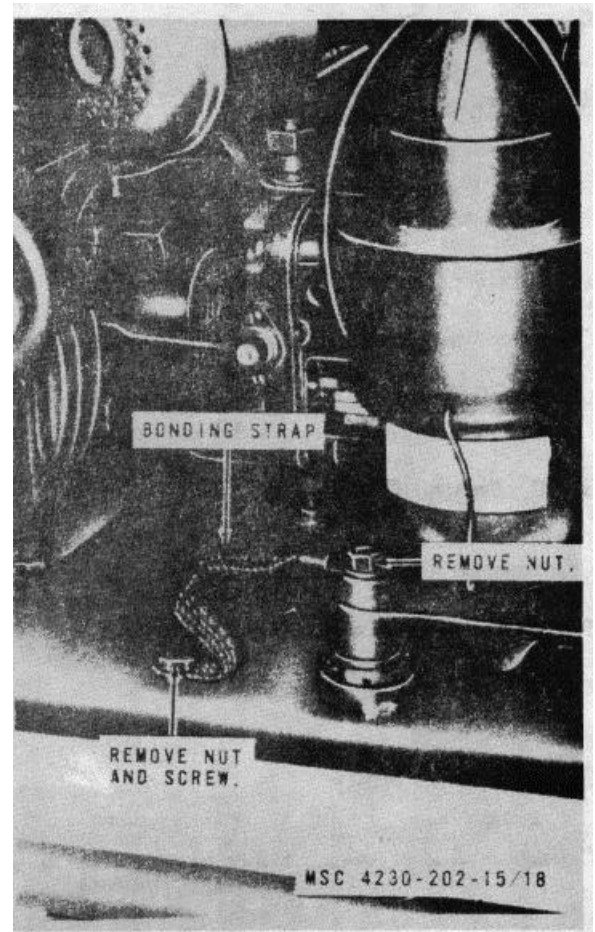

Figure 3-11. Interference suppression components, location, removal and installation.
a. Figure 3-11 locates and provides instructions for removal and installation of interference suppression components.